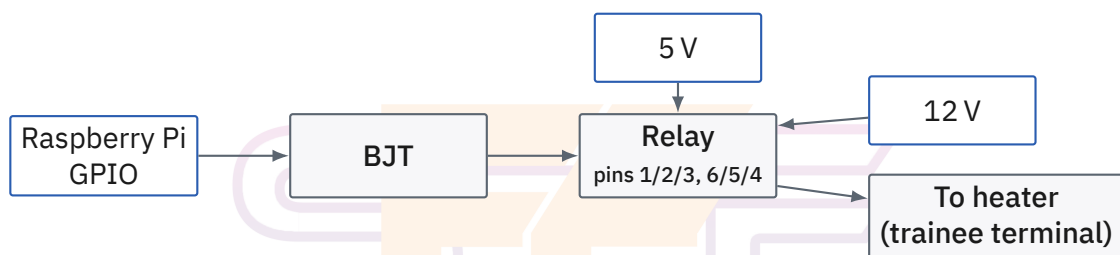

Figure 8.2: ON/OFF control: BJT/relay driver stage between the Raspberry Pi GPIO and the heater terminal.
3. Configure the sensor trainer for thermistor ON/OFF control, using a BJT/relay driver stage between the Raspberry Pi's GPIO output and the heater terminal (Figure 8.2).